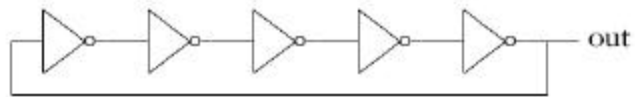
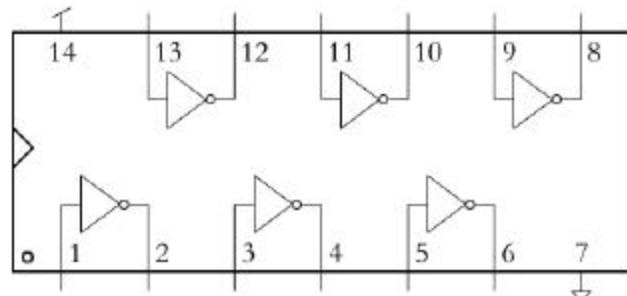

Figure 2a 5-stage ring oscillator
Figure 2b 74F04PC hex inverter pinouts
1. Build the ring oscillator circuit in Figure 2a on your breadboard. Use a 74F04PC hex inverter chip, whose pinout is shown in Figure 2b. Remember to connect pin 14 to +5V and pin 7 to ground!